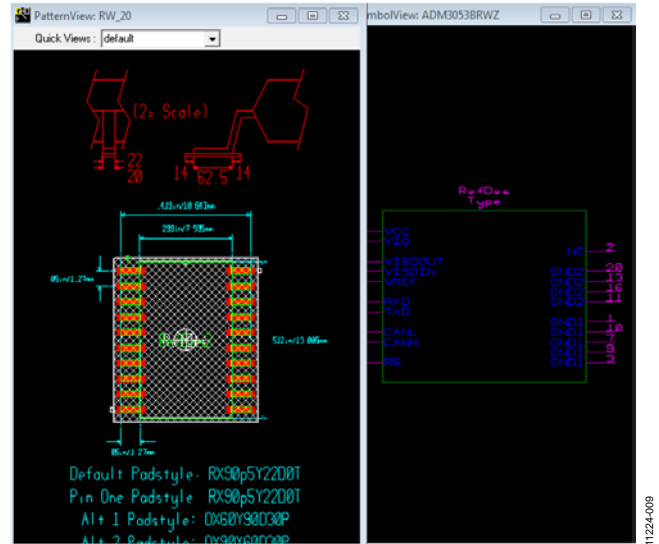

Figure 9. ADM3053 Isolated CAN Transceiver Footprint and Symbol Window Using Ultra Librarian Reader
4. Navigate to the directory where you downloaded the ADM3053BRWZ.bxl file. This loads the tool with both a footprint and symbol window (see Figure 9).